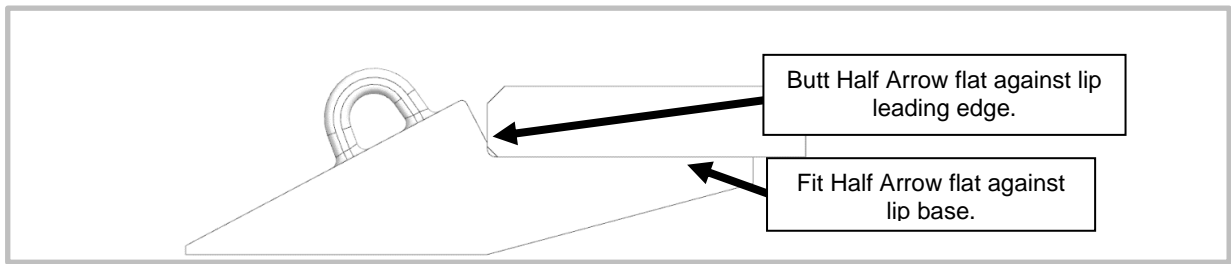

Figure 5 Half Arrow segment placement against lip plate
Step 1 : Position Half Arrow segments on the lip plate such that the base of the lip is flat against the Half Arrow lip face and the leading edge is butt against the Half Arrow lip step as shown in Figure 5.